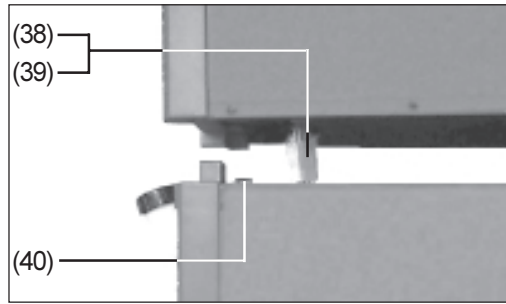

Fig.9 Plug-type connection between the power source and the cooling unit
- Pull the connector plug (38) of the power source as far as possible through the opening on the underside (Fig.9)
- Make a plug connection (39) between the power source and the cooling unit (Fig.9)
- Carefully place the power source onto the cooling unit (Fig.9)